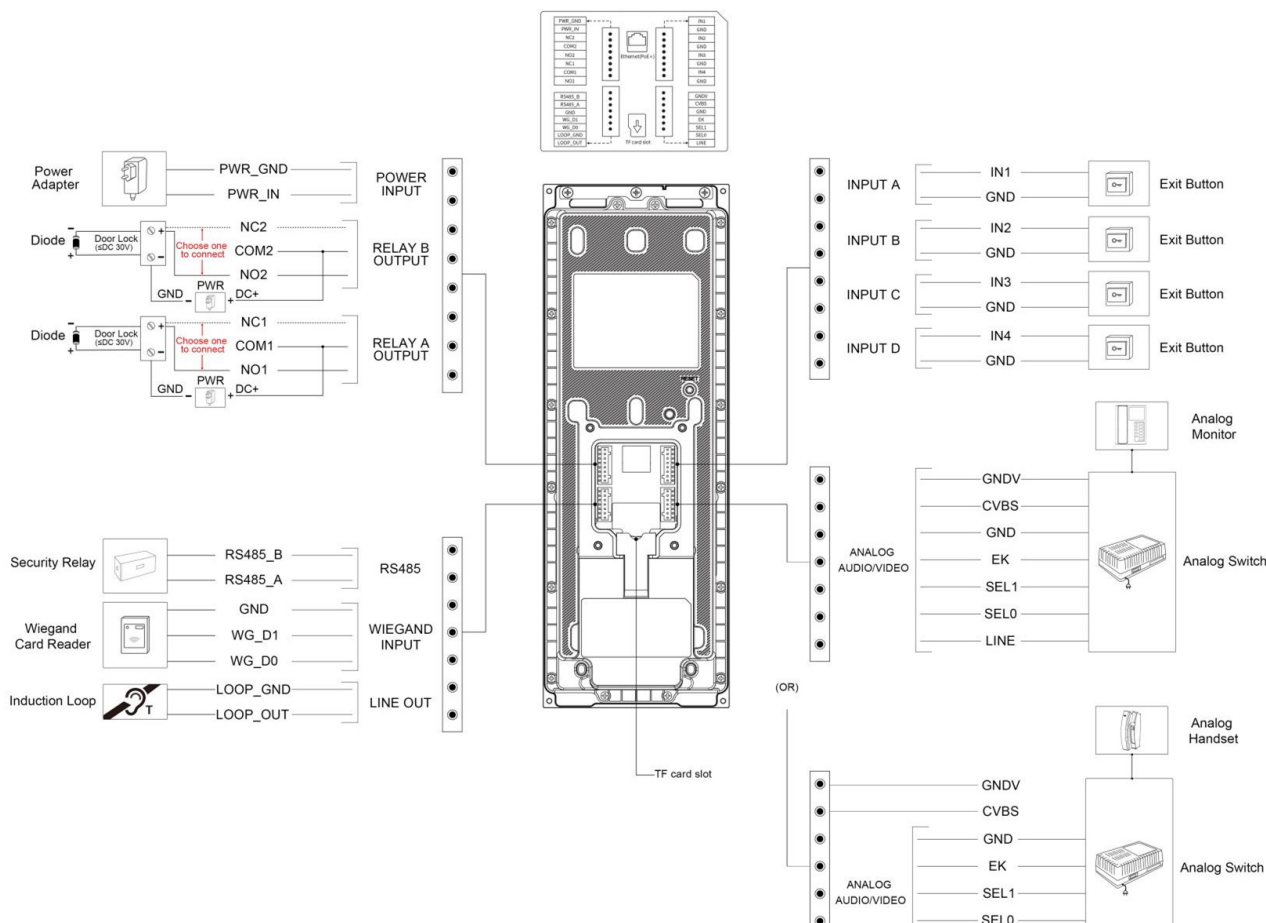

Figure 2: MyBell Keypad Station - wiring
1. Connect the wires to the terminal blocks with flat-head screwdriver. For more information, see Figure 2.